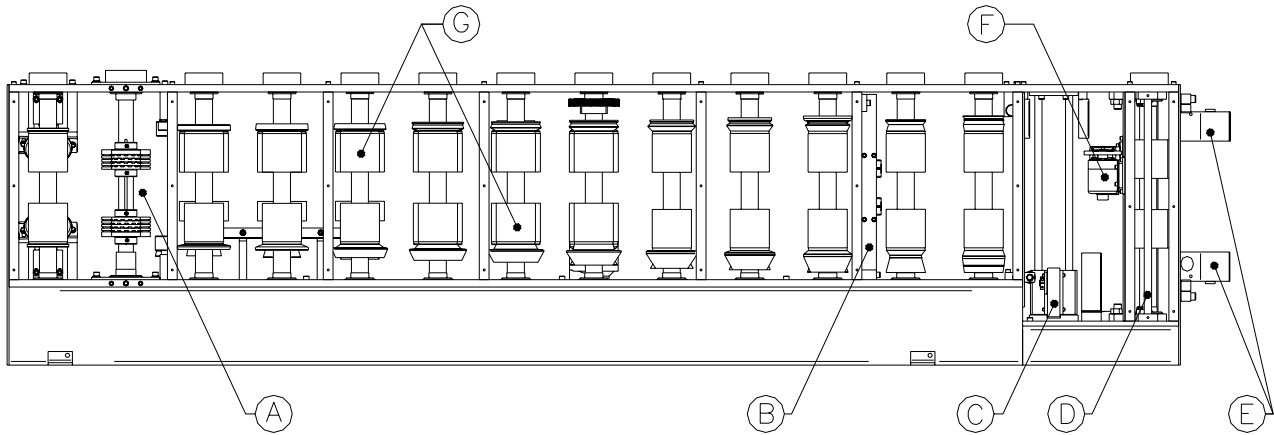

Fig. 2 FP-16 Main Components
- A. Pull the Drive Roll Release (Fig. 2 Item D) forward to lock the first station drive rolls together.
- B. Feed the leading edge of the coil into the Feed-In Guides on the rollformer (Fig. 2 Item E) and up to the first station rollers.
- C. The drum switch, located near the bottom of the rollformer and to the left of the shear (Fig. 2 Item C), controls the drive direction of the rollers. Put the switch in the forward position.